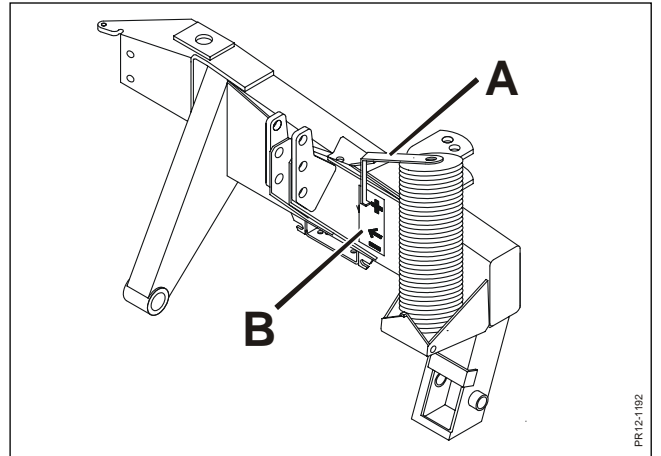

Fig. 3-8
- Fig. 3-8** Adjust the double-acting hydraulic outlet to floating position. Raise/ lower the link arms until the machine is at the correct working height. This is obtained when the indicator **A** is at level with the arrow on the transfer **B** as described in chapter 2.
NB: Irregular stubble or uneven driving in the field can be rectified by choosing an adjustment as shown in Fig. 3-8.